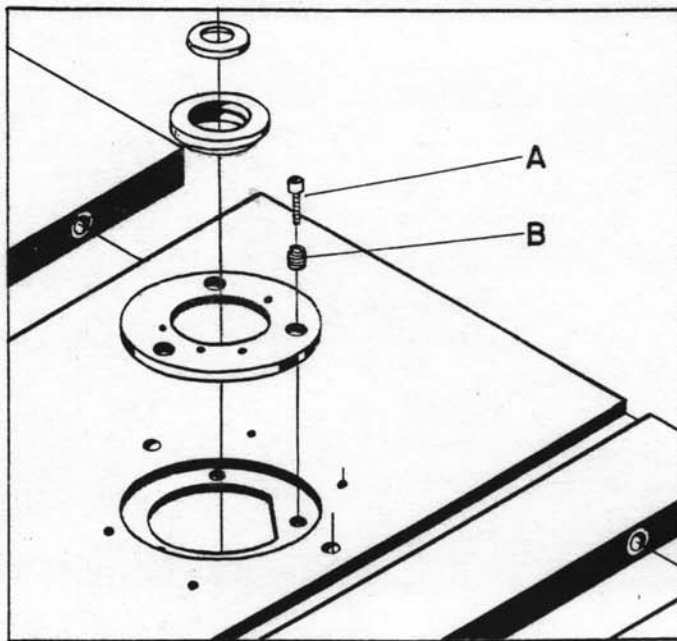

Fig. 5
1. Remove the three slotted head screws (A) Fig. 5.
2. Using a screwdriver, turn adjusting screws (B) Fig. 5, which will raise or lower the insert.
3. When the insert is flush with the table, replace the slotted head screws (A) Fig. 5.